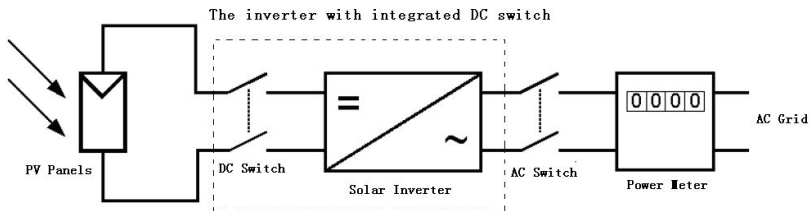

Fig.6 The PV system diagram
- DC Switch and AC Switch: "DC switch" is between PV Panels and solar inverter while "AC Switch" is between AC Grid (Utility) and solar Inverter. They are simplified in this diagram. In fact, they may consist of electrical breaker, fuse and connecting terminals. To comply with local safety standards and codes, the connection system should be designed and implemented by a qualified technician. JFY-tech also provides the solar inverter with an integrated DC switch demonstrated in dashed border in Fig.6. -S suffix indicates the inverter is integrated a DC switch in PV input side.